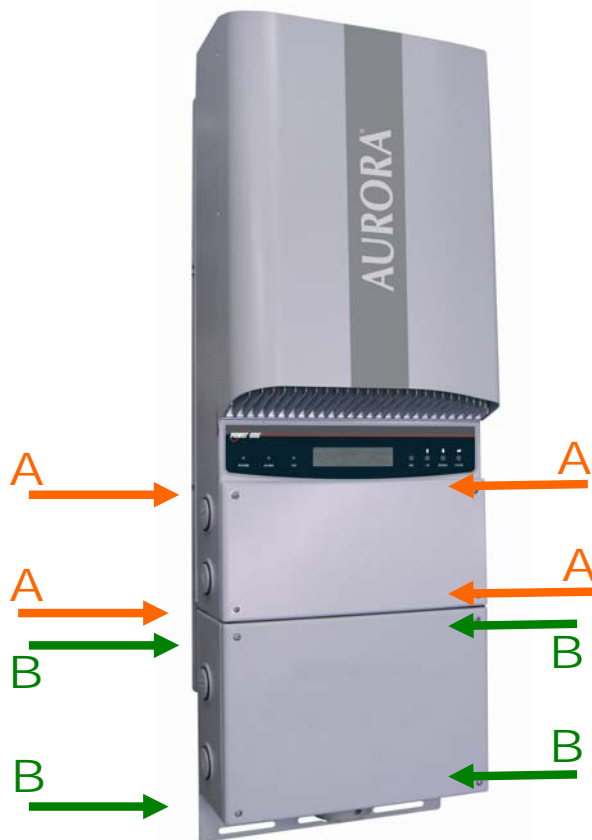

Fig.10 - AURORA with front panel and DC Switch
To remove the cover untightenn the 4 screw shown in fig 10 in pos “a” using the flat screwdriver provided in the box with the inverter.
Step 4: Open the inverter cover(4 screw in pos "b" in fig. 10 and connect the signals cable (optional).Pass the cable inside the Switch Box trough the input knock outs pos "D" fig.11 "SB 01 – D.C. Switch Box Layout")and then inside the inverter trough the cable gland placed in the upper side of the switch Box; finally screw the cable in the appropriate terminal block inside the inverter.
Step 1: Remove the Switch Box front panel (remove the 4 screw in pos "b" in fig. 10)